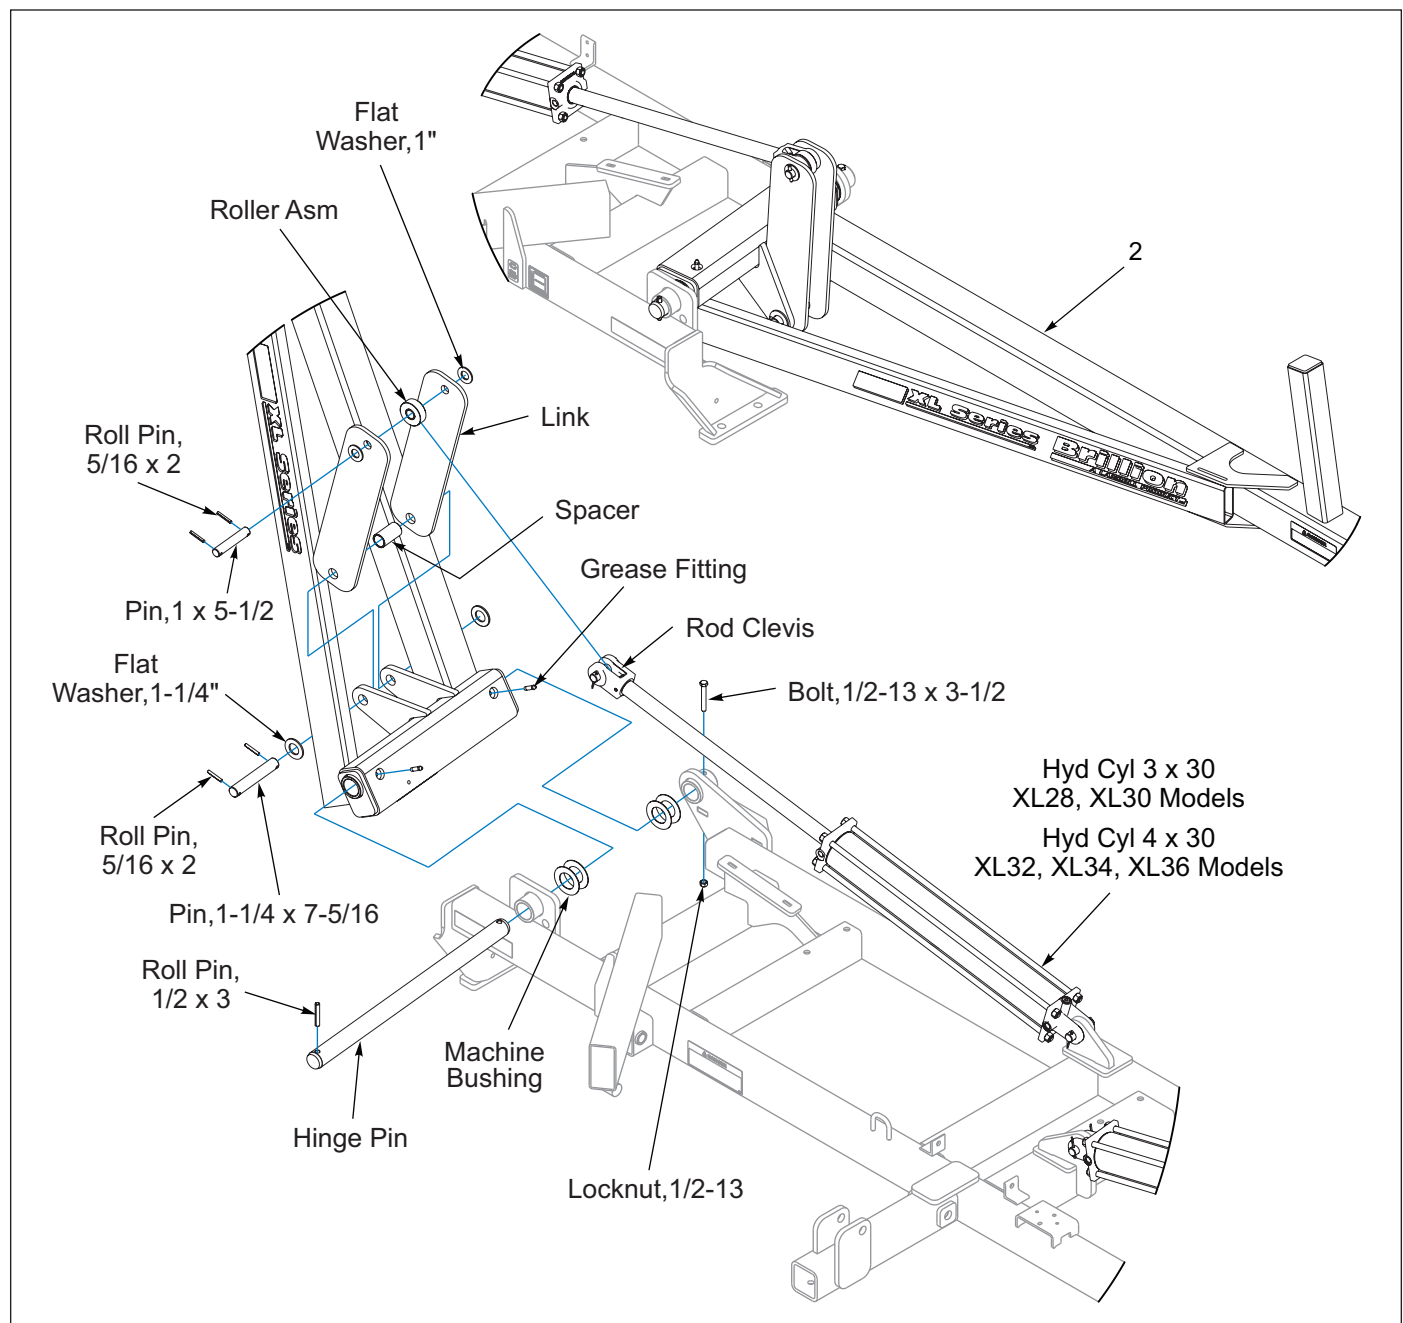

Figure 2-14: Wing to Frame Installation
1. Position the right hand wing frame between the right center frame bushings. Insert two Machinery Bushings on each side of the wing frame. Align the holes and insert Hinge Pin. Secure one end with 1/2-13 x 3-1/2 Bolt and Locknut and opposite end with 1/2 x 3 Roll Pin. **See Figure 2-14.**